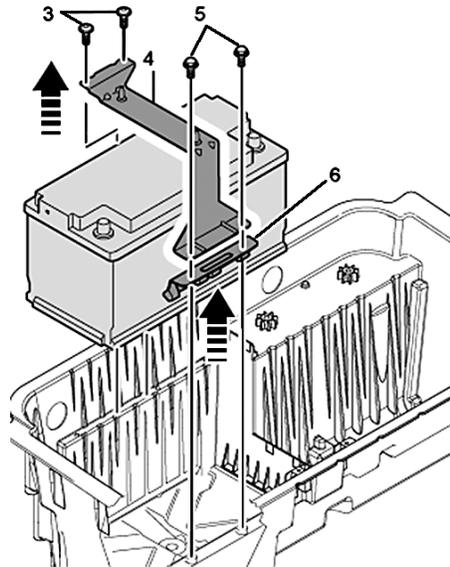

Fig. 4 Battery retaining bar
9. Remove two fastening screws (3) on retaining bar (4) and two fastening screws (5) for rail (6), **Fig. 4**.
2. Position rail (6) under battery, and install retaining bar (4), **Fig. 4**.
3. Install four fastening screws (3, 5), and screw them in by hand, **Fig. 4**.
4. Tighten fastening screws (3). **Torque** screws to 90 inch lbs., **Fig. 4**.
5. Tighten fastening screws (5). **Torque** screws to 17 ft. lbs., **Fig. 4**.